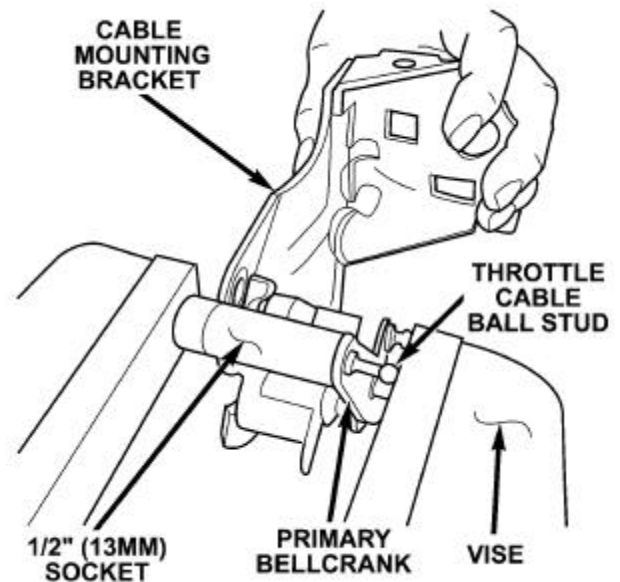

Figure 8
26. Place the primary bellcrank lever into a vise with the nail head side of the throttle cable ball stud inserted into a 1/2 inch (13 mm) deep well socket as shown in Figure 8. Using the vise, press the throttle cable ball stud out of the primary bellcrank.